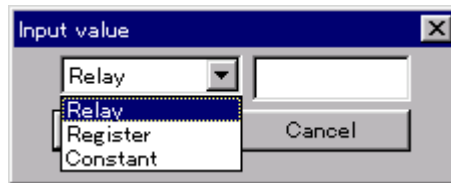

Figure 21-1 [Enter Relay, Register, or Constant] Dialog Box
1. Select [Tools] – [Instruction Use Table...]. The dialog box shown in Figure 21-1 appears.